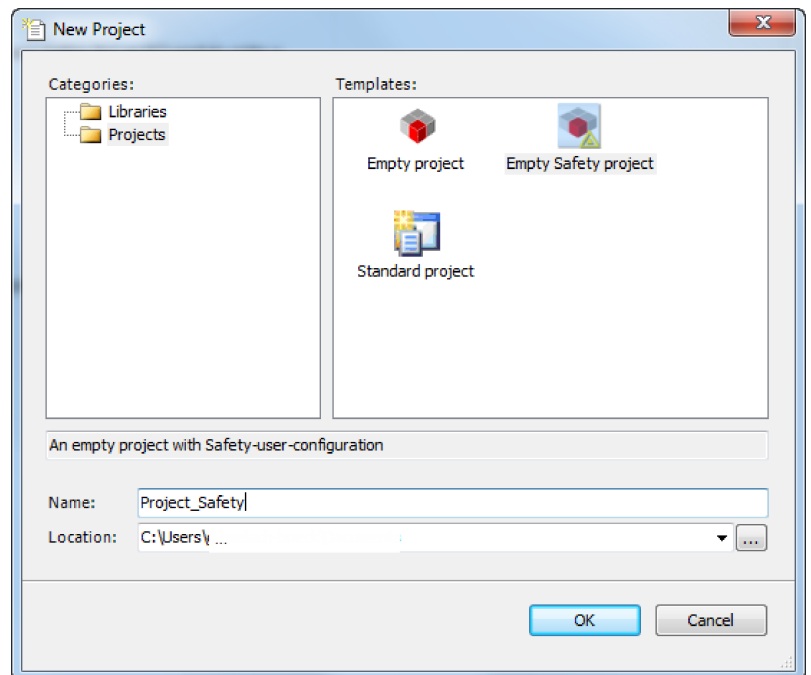

Fig. 10: Dialog 'New project'
2. ▶ In the *“New project”* dialog (see Fig. 10) select an *“Empty project”*, or an *“Empty safety project”* (empty project with template for safety user management) and actuate the *“OK”* button.